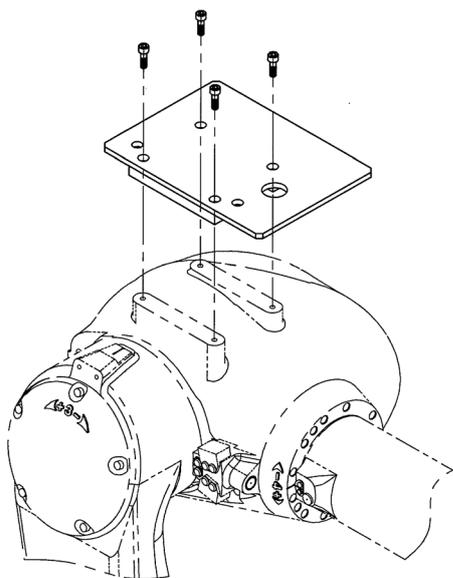

Fig. 1.1 Mounting of fixing bracket (Procedure 1)
1. Referring to Fig. 1.1, mount the fixing bracket onto the shoulder part of arm.